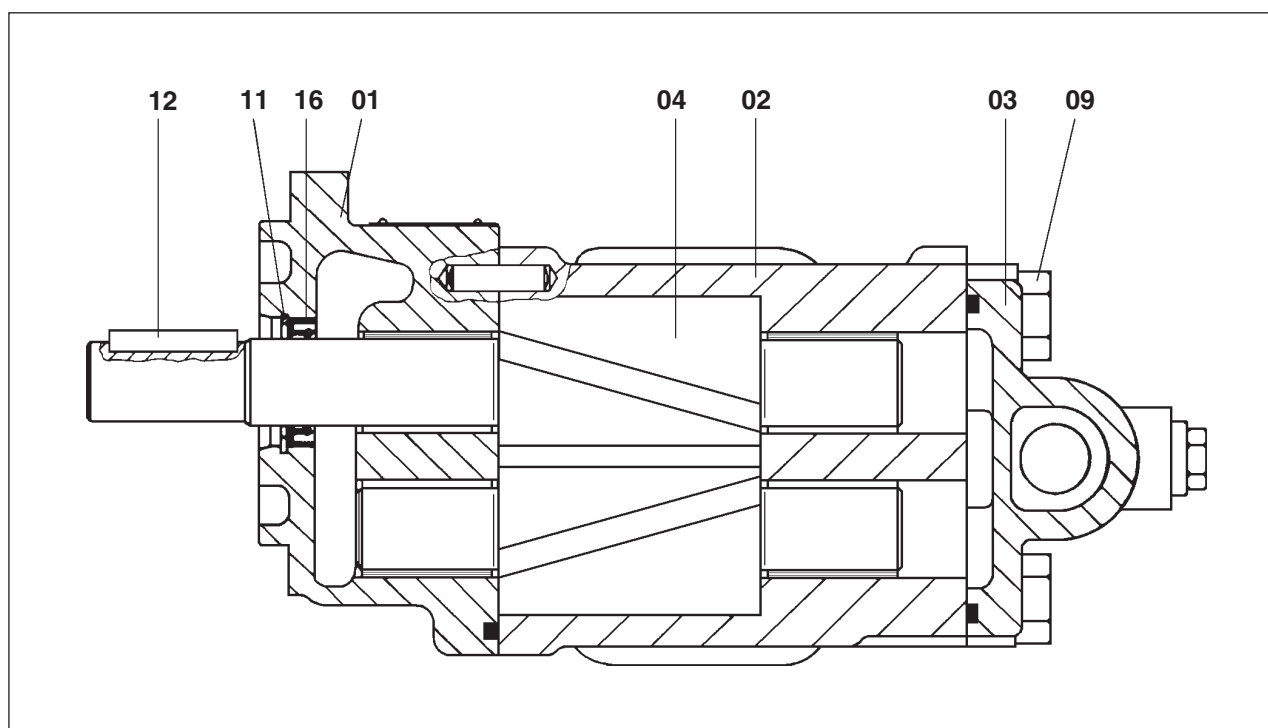

Fig. 1. Prelubricating Pump.
- 4) Remove the coupling part and key (12), see fig. 1, from the driving gear shaft (4).
- 5) Tighten the pump to the flange. Pressure control valve (3) upwards.
- 6) Loosen screws (9) and take off the pressure control valve (3).